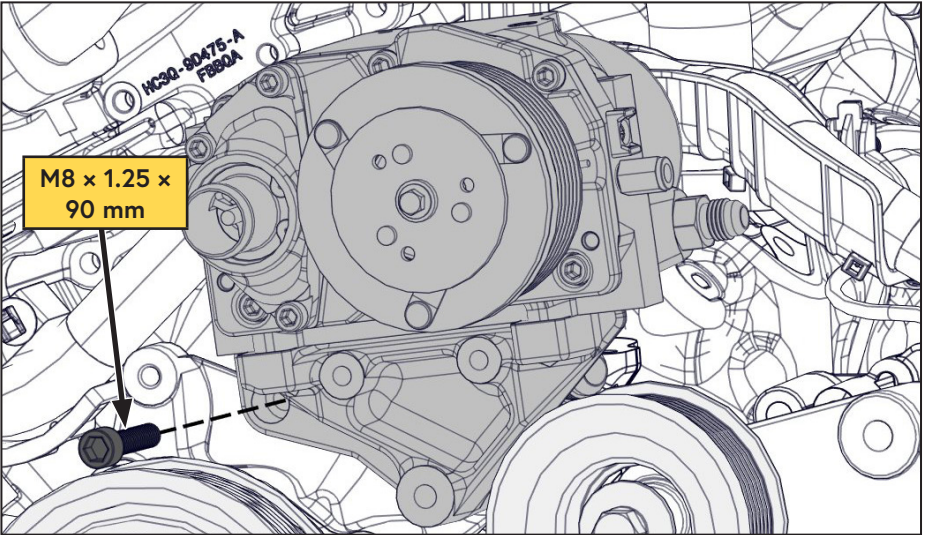

Figure 8 — Mounting the compressor to the engine
- Mount the compressor and main bracket assembly onto the engine. It may be necessary to loosen the (x2) front passenger side intake manifold fasteners in order to slide the compressor and bracket into place (Figure 8).